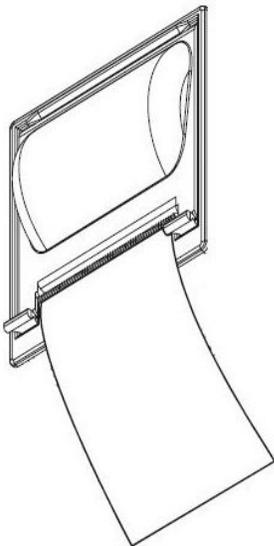

Figure 7-6 – Changing the paper roll - Step 4
4. The printer is ready, Fig. 7-6